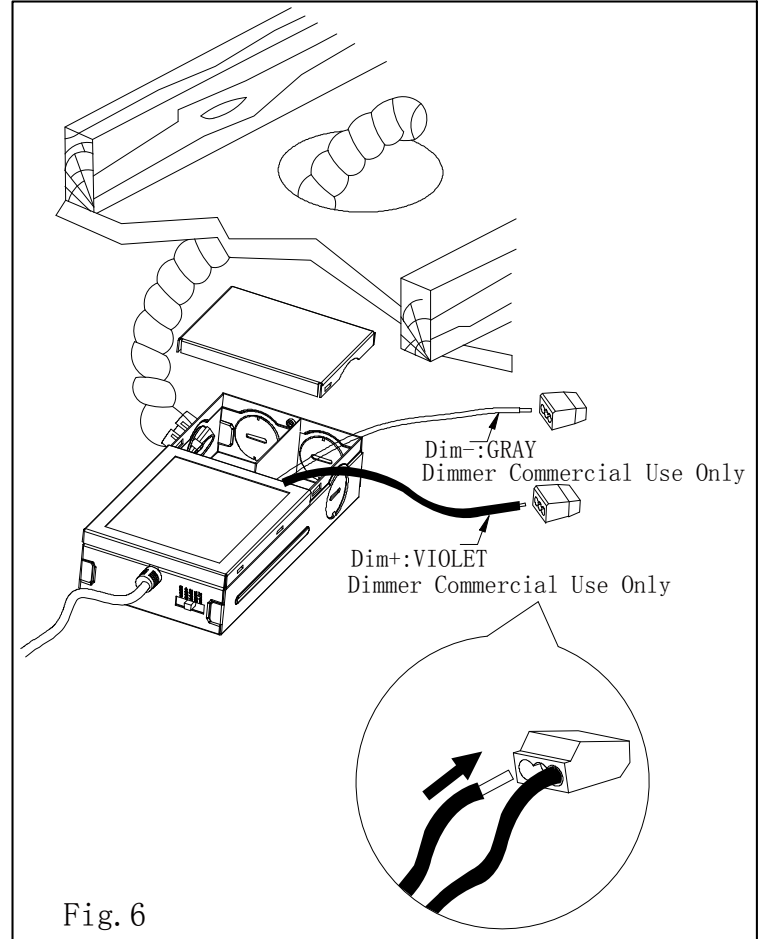

Fig. 6
7. Insert the violet wire into quick wire connector to control light and shade. Insert the gray wire into quick wire connector to control light and shade. Make sure all connections are secure, tuck all wires inside the junction box. Dimmer Commercial Use Only. (Fig.6)